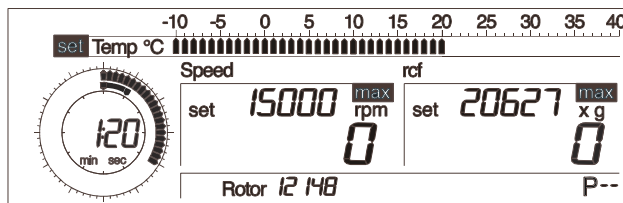

Fig. 5.15:
- Turn the left rotary knob until “set” appears in the display field in front of the parameter "Temp" (Fig. 5.15).